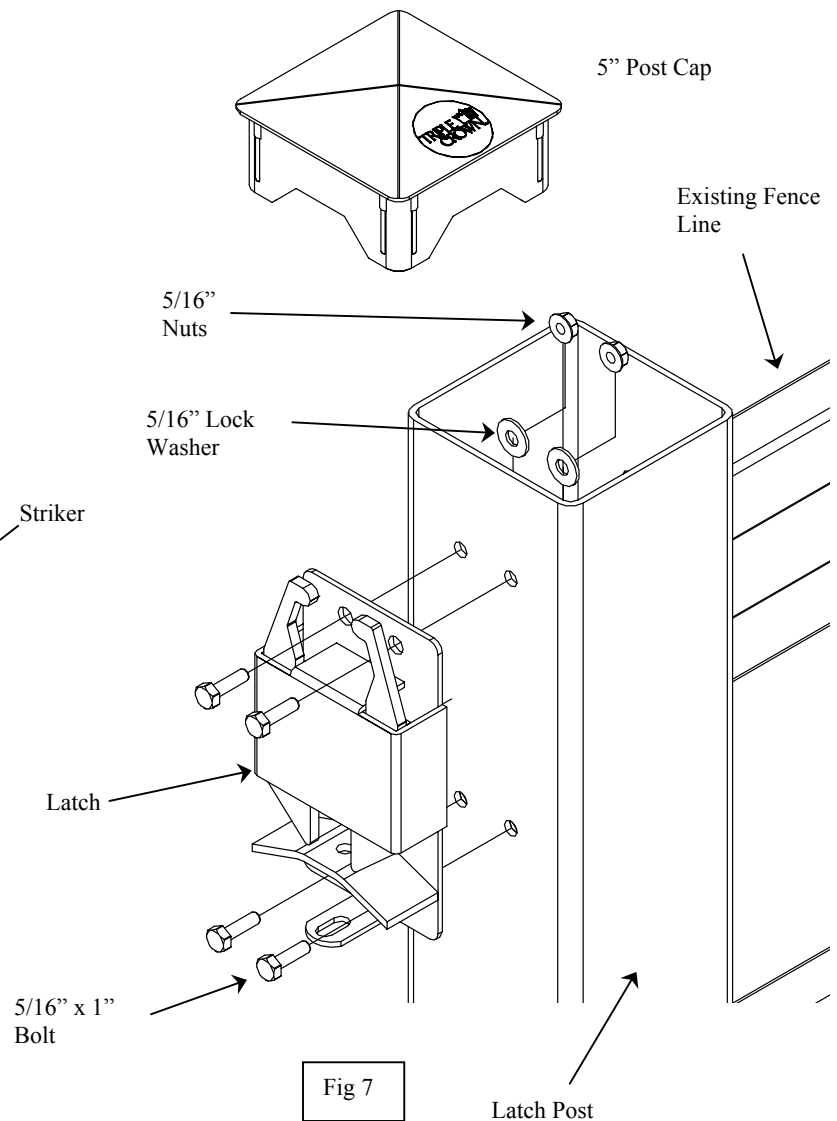

Fig 7
- 3) When the gate is leveled, position the latch on the latch post. Mark and drill 5/16" diameter holes through one wall only. Secure with 5/16" x 1" bolts and hardware provided. Location of latch will vary as per each customer but is usually located at the top of the latch post. (Fig. 7)